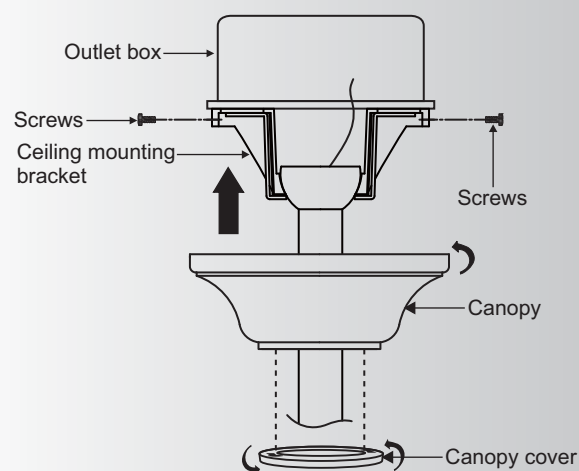

Fig. 15
Step 2. Slide the canopy up to ceiling and attach the canopy to the ceiling mounting bracket using 4 screws at the top edge of the mounting bracket. Insert each screw through the canopy mounting hole and into the mounting bracket. Slide the canopy cover up to the canopy and rotate clockwise until tight. Tighten all screws securely. (Fig. 15)